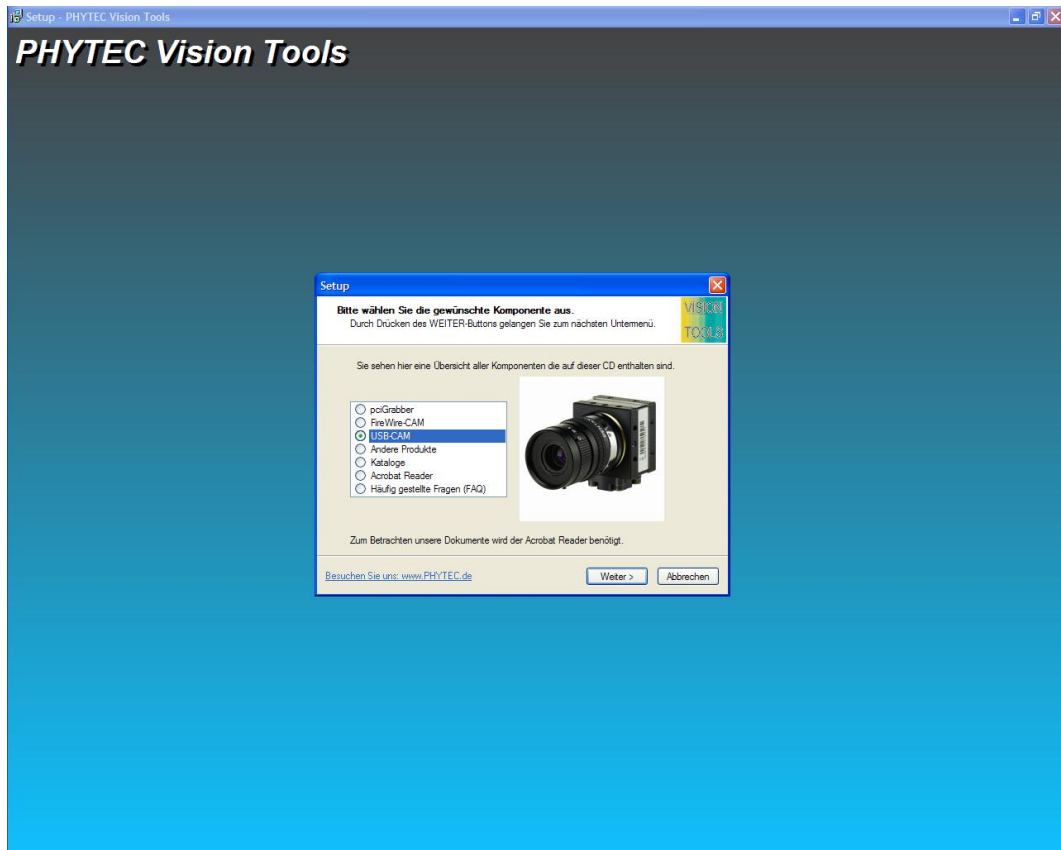

Figure 8: Title Menu of the "Vision Tools" CD
- The CD should start automatically, bringing up the title menu shown in *Figure 8*.